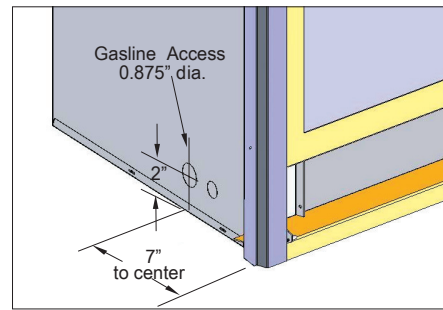

Figure 22. Gas line access.
- See Figure 22 for location of gas line access.